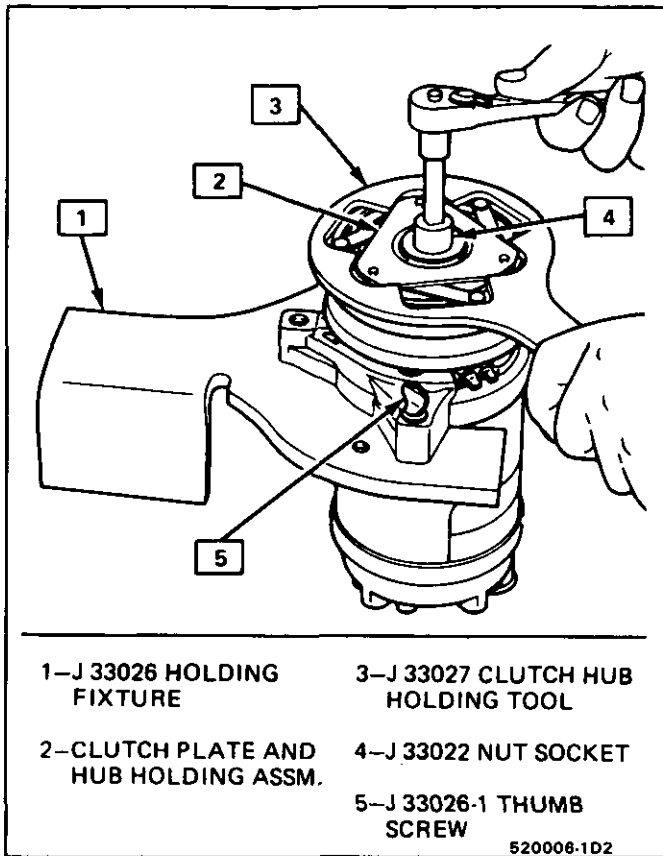

Fig. 6 Removing Shaft Nut
1. Clamp the holding fixture J-33026 in a vise and attach compressor to holding fixture with thumb screws J-33026-1 (Fig. 6).
2. Keep the clutch hub and drive plate assembly from turning by using the clutch hub holding tool J-33027. Remove the shaft nut using shaft nut socket J-33022 (Fig. 6).